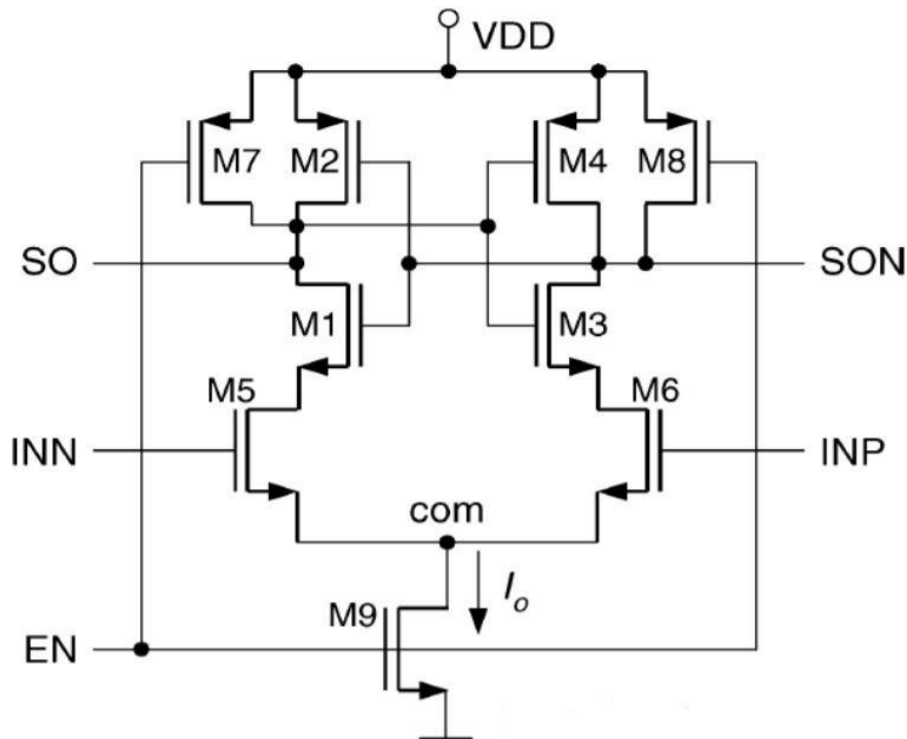

Fig 1.
Fig 1. shows an example of latch-type amplifier. EN is the precharge signal used to reset the SA to the state that is prepared for working. INN and INP are signals came from memory cell which will presence a voltage difference when reading out the data. SO and SON are output signals, they are initially precharged to VDD, one will become VDD and the other GND after sensing.
1. Design proper transistor sizing for the latch-type sense amplifier (SA) shown in Fig 1. (Symmetry MOS size and layout design is recommended).